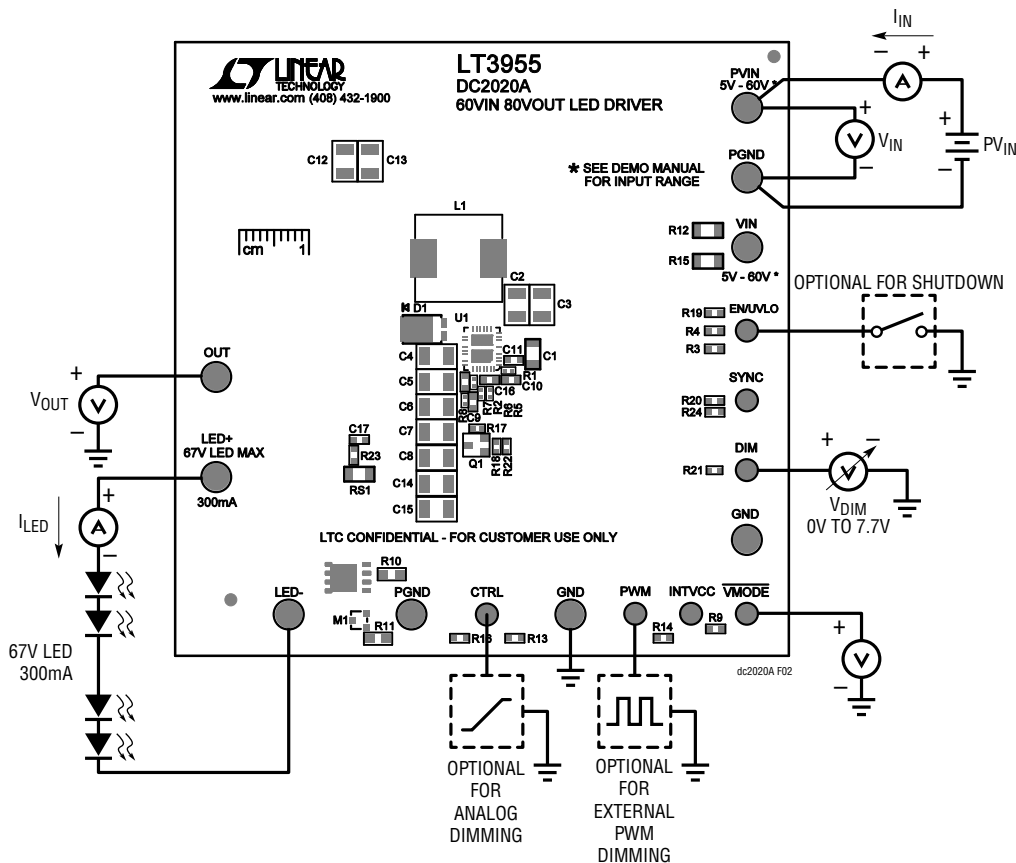

Figure 1. Test Procedure Setup Drawing for DC2020A
1. Connect a string of LEDs that will run with forward voltage less than or equal to 67V, but greater than the intended PV_{IN} , to the LED^+ and LED^- terminals on the PCB as shown in Figure 1.